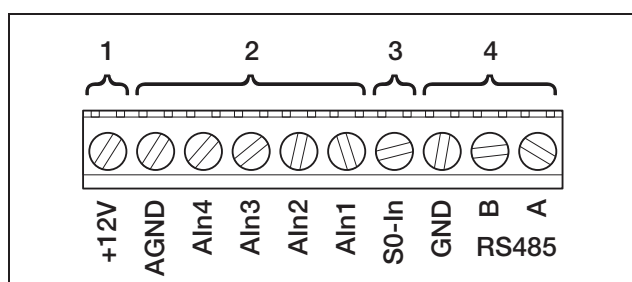

Fig. 63: Cable terminal
- Connect the lines to the terminal according to the terminal assignment (figure 63 and table 10).
Connections for the serial **RS485** interface are found **on the terminal for analogue interfaces (figure 63)**. Using RS485, up to 200 inverters - depending on the inverters used - can be connected.
- Connect the lines to the terminal (4 in figure 63) according to the terminal assignment (table 7).